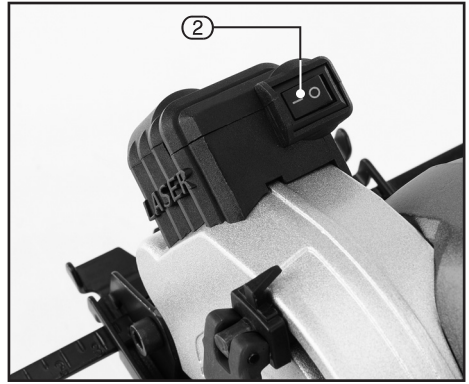

FIG.9
9.4 LASER LINE GENERATOR – FIG. 9